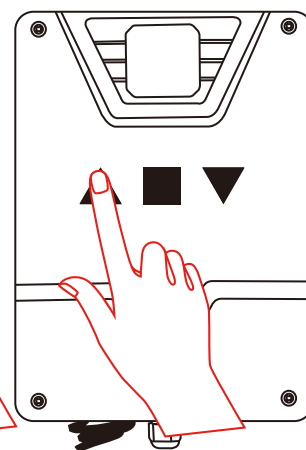

Figure 14
**Step 5.** Press and hold the “**UP**” button to close the gate, until the gate is opened in position then release the button. Press the “**STOP**” button to confirm the opened fully position. Then it will auto exit the operation. Set opened and closed in position(Adjust the vertical and horizontal line of barrier boom) successfully. Fig 14